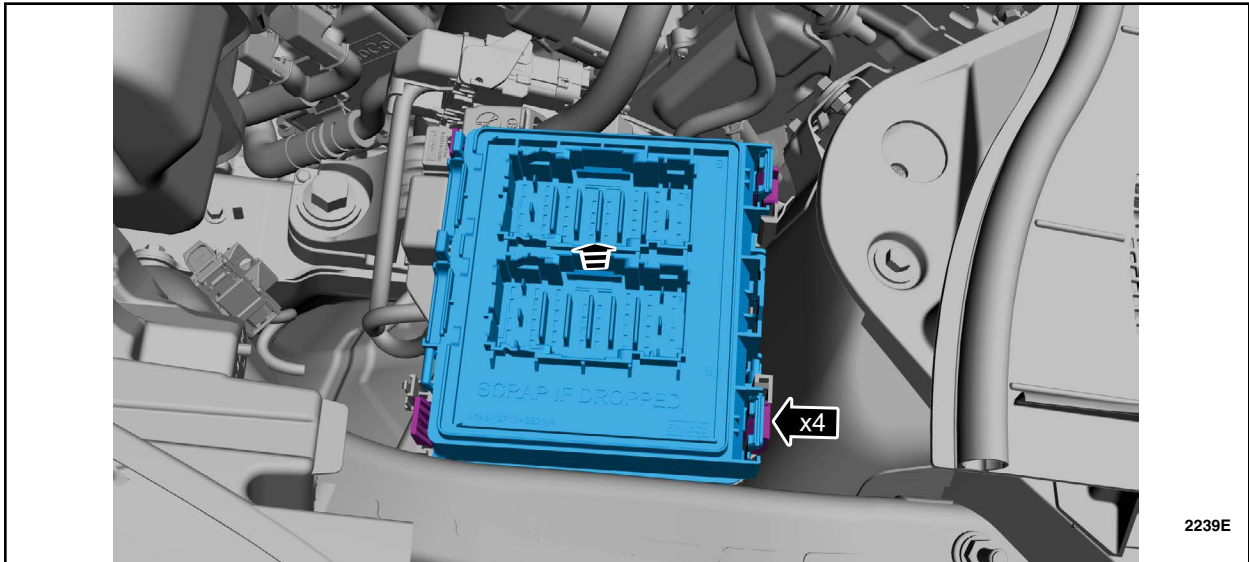

FIGURE 5
9. Release the tabs and remove the power distribution box from the bracket. See Figure 5.